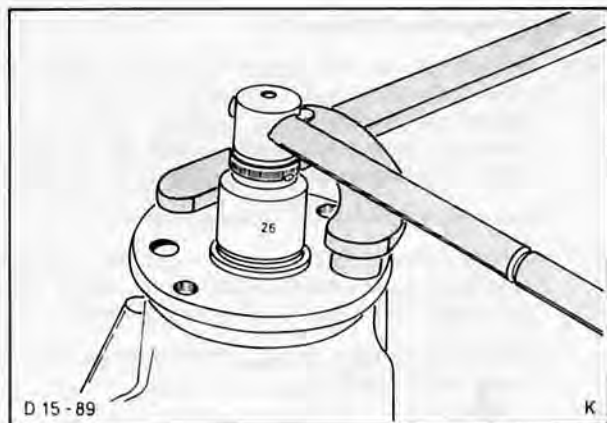

Fig. 26. Hold flange with special tool no. 15-030
5. Remove drive pinion (1 nut). To do this, hold flange with Special Tool and undo nut, Fig. 26, tap drive pinion out downwards with a copper hammer. Detach flange.